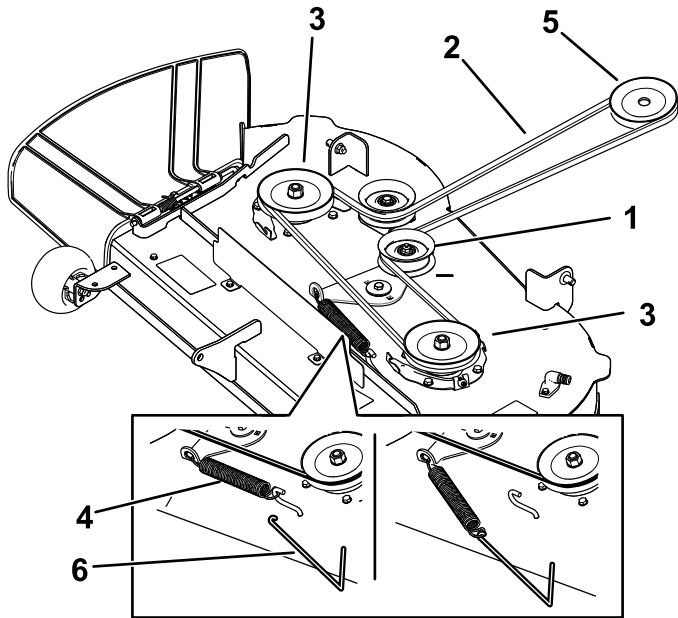
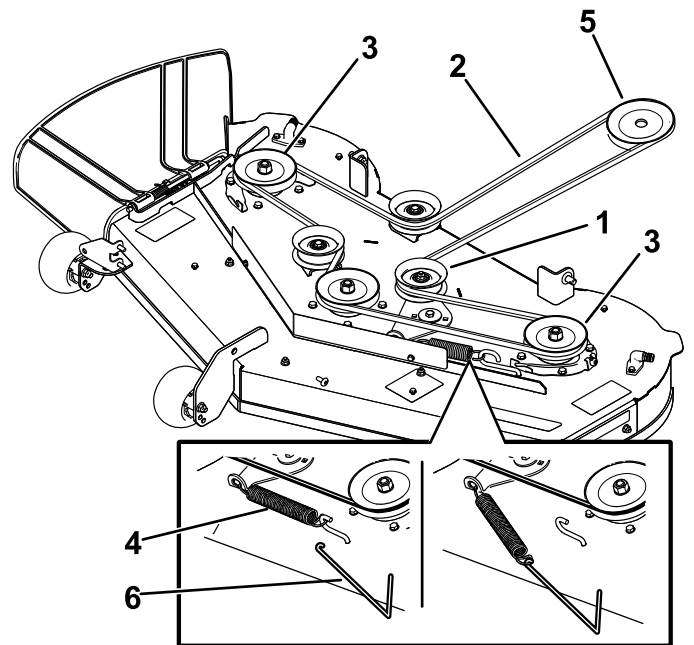

Figure 50
Figure 51
5. Using a spring-removal tool (Toro Part No. 92-5771), remove the idler spring from the deck hook to remove tension on the idler pulley, and roll the belt off the pulleys (Figure 50 or Figure 51).
6. Route the new belt around the engine pulley and mower pulleys (Figure 50 or Figure 51).
7. Using a spring-removal tool (Toro Part No. 92-5771), install the idler spring over the deck hook and place tension on the idler pulley and the mower belt (Figure 50 or Figure 51).